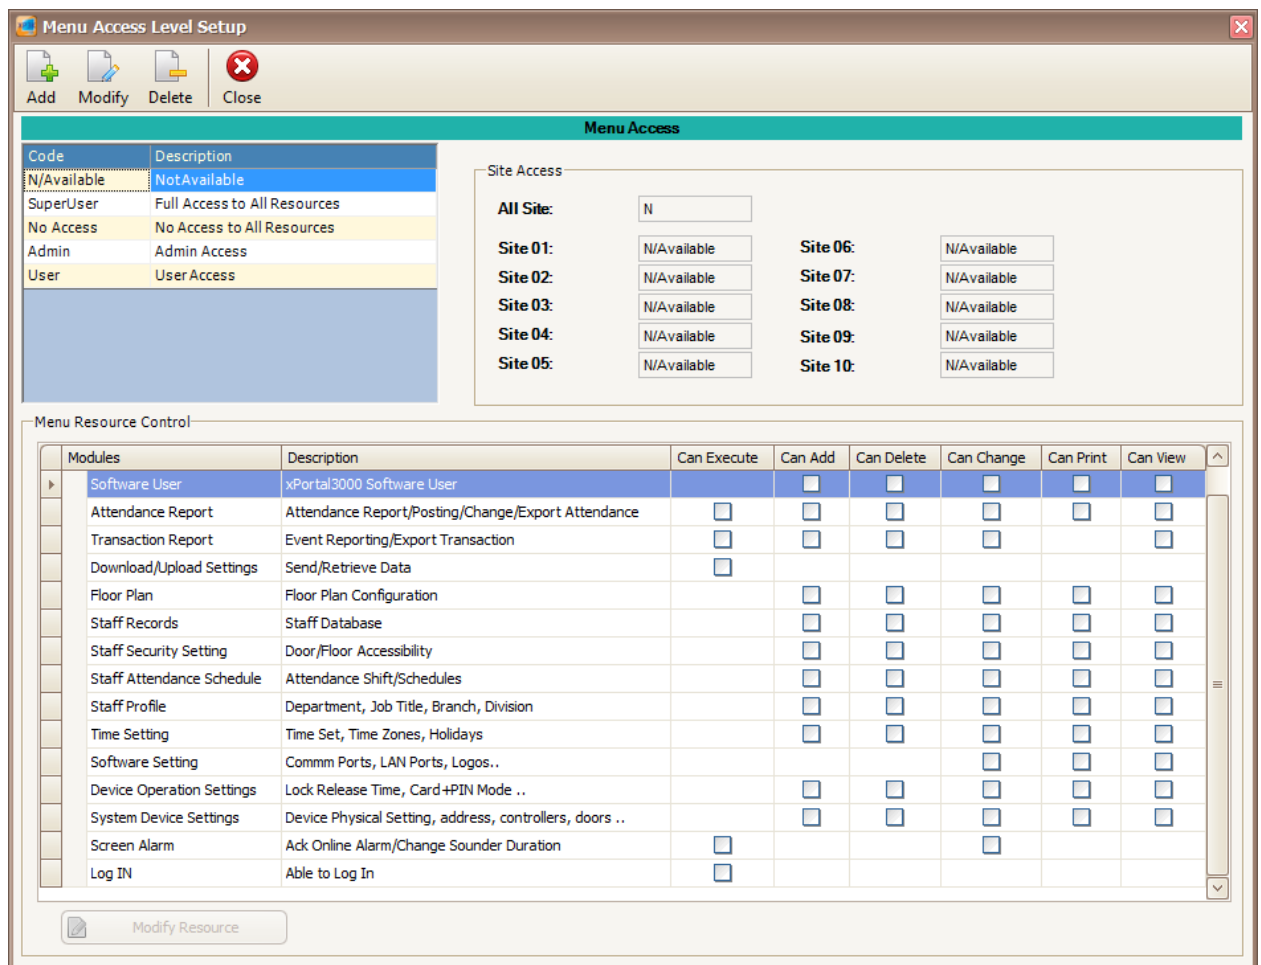

Figure 166 - Menu Access Level Setup
2. The following window will be shown (Refer **Figure 166**). On the Menu Access Level Setup window, you can see the information of the Menu Resource Control and Site Access.